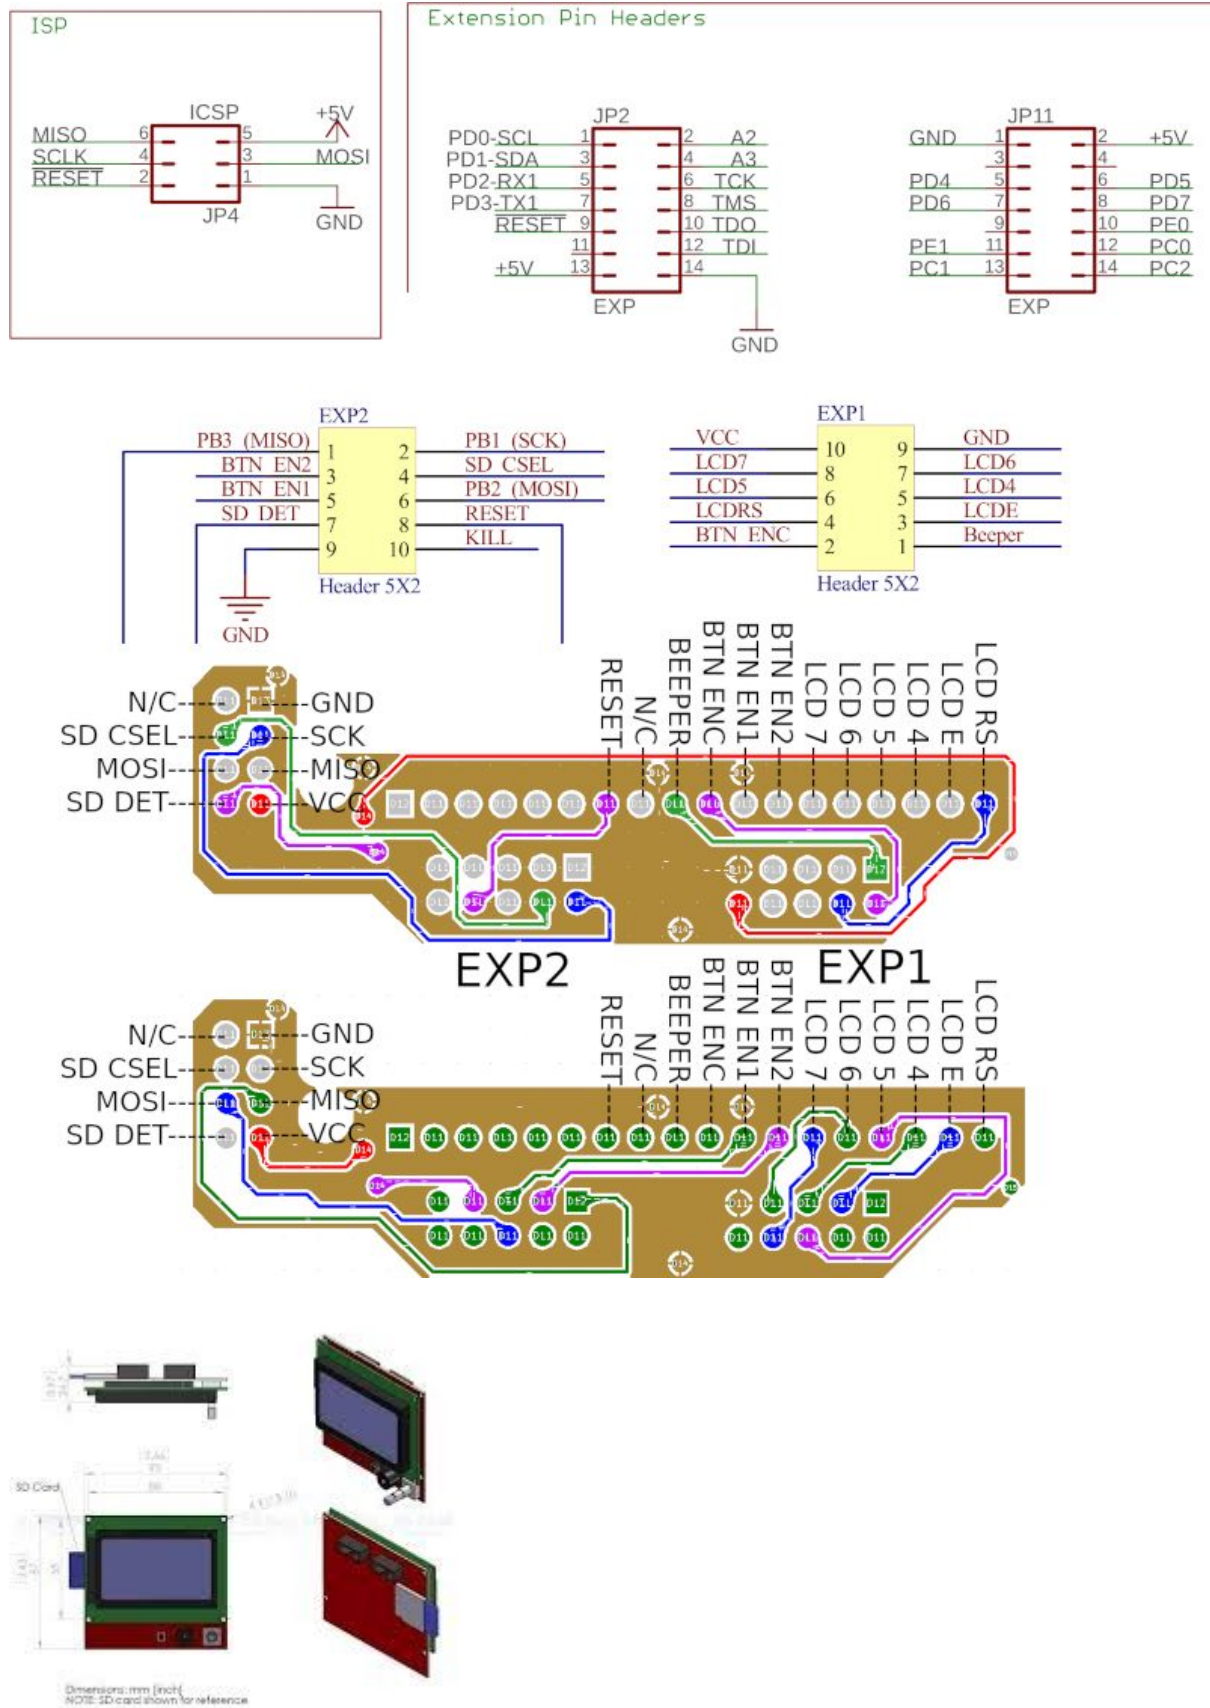

**Figure 1:** Two-reed (top) and three-reed (bottom) reed switches
A reed switch consists of two or three springy metal reeds having plated, long-life contacts at the tips and encapsulated in a sealed glass tube. The two-reed type has normally open (NO) contacts which close when operated, and the three-reed type is a changeover, i.e. it has a pair of normally open (NO) and a pair of normally closed (NC) contacts. When the switch is operated, both these pairs change to the opposite state. Both types are shown in figure 1.